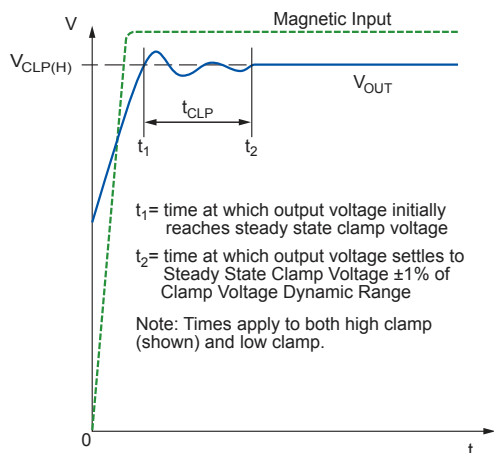

Figure 2: Delay to Clamp Definition
**Delay to Clamp:** A large magnetic input step may cause the clamp to overshoot its steady-state value. The Delay to Clamp,  $t_{CLP}$ , is defined as the time it takes for the output voltage to settle within 1% of its steady-state clamp voltage after initially passing through its steady-state voltage, as shown in Figure 2.